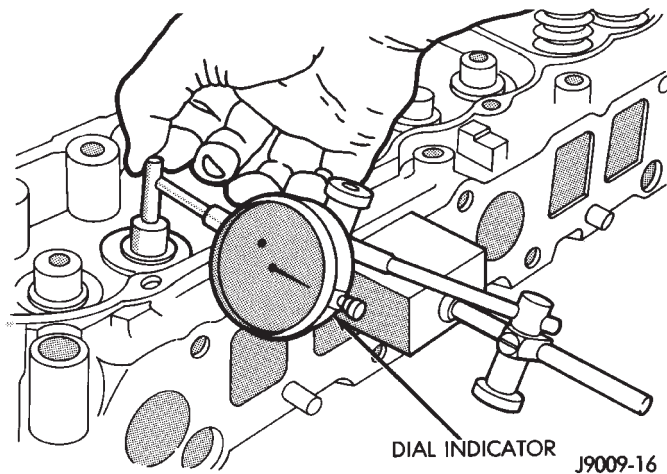

Fig. 11 Measurement of Lateral Movement of Valve Stem
(1) Use a dial indicator to measure the lateral movement of the valve stem (stem-to-guide clearance). This must be done with the valve installed in its guide and just off the valve seat (Fig. 11).
(2) Correct clearance is 0.025-0.0762 mm (0.001-0.003 inch). If indicated movement exceeds the specification ream the valve guide to accommodate an oversize valve stem.